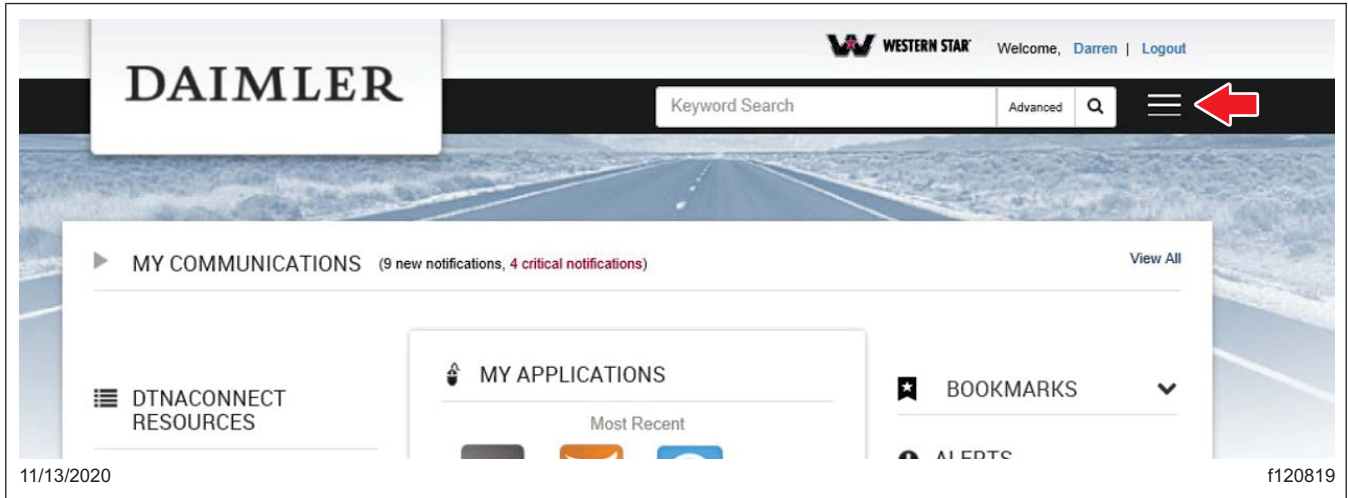

Fig. 1, DTNACONNECT Home Screen
4. On the laptop, go to DTNAConnect and select the three menu bars in the upper right-hand corner. See Fig. 1.